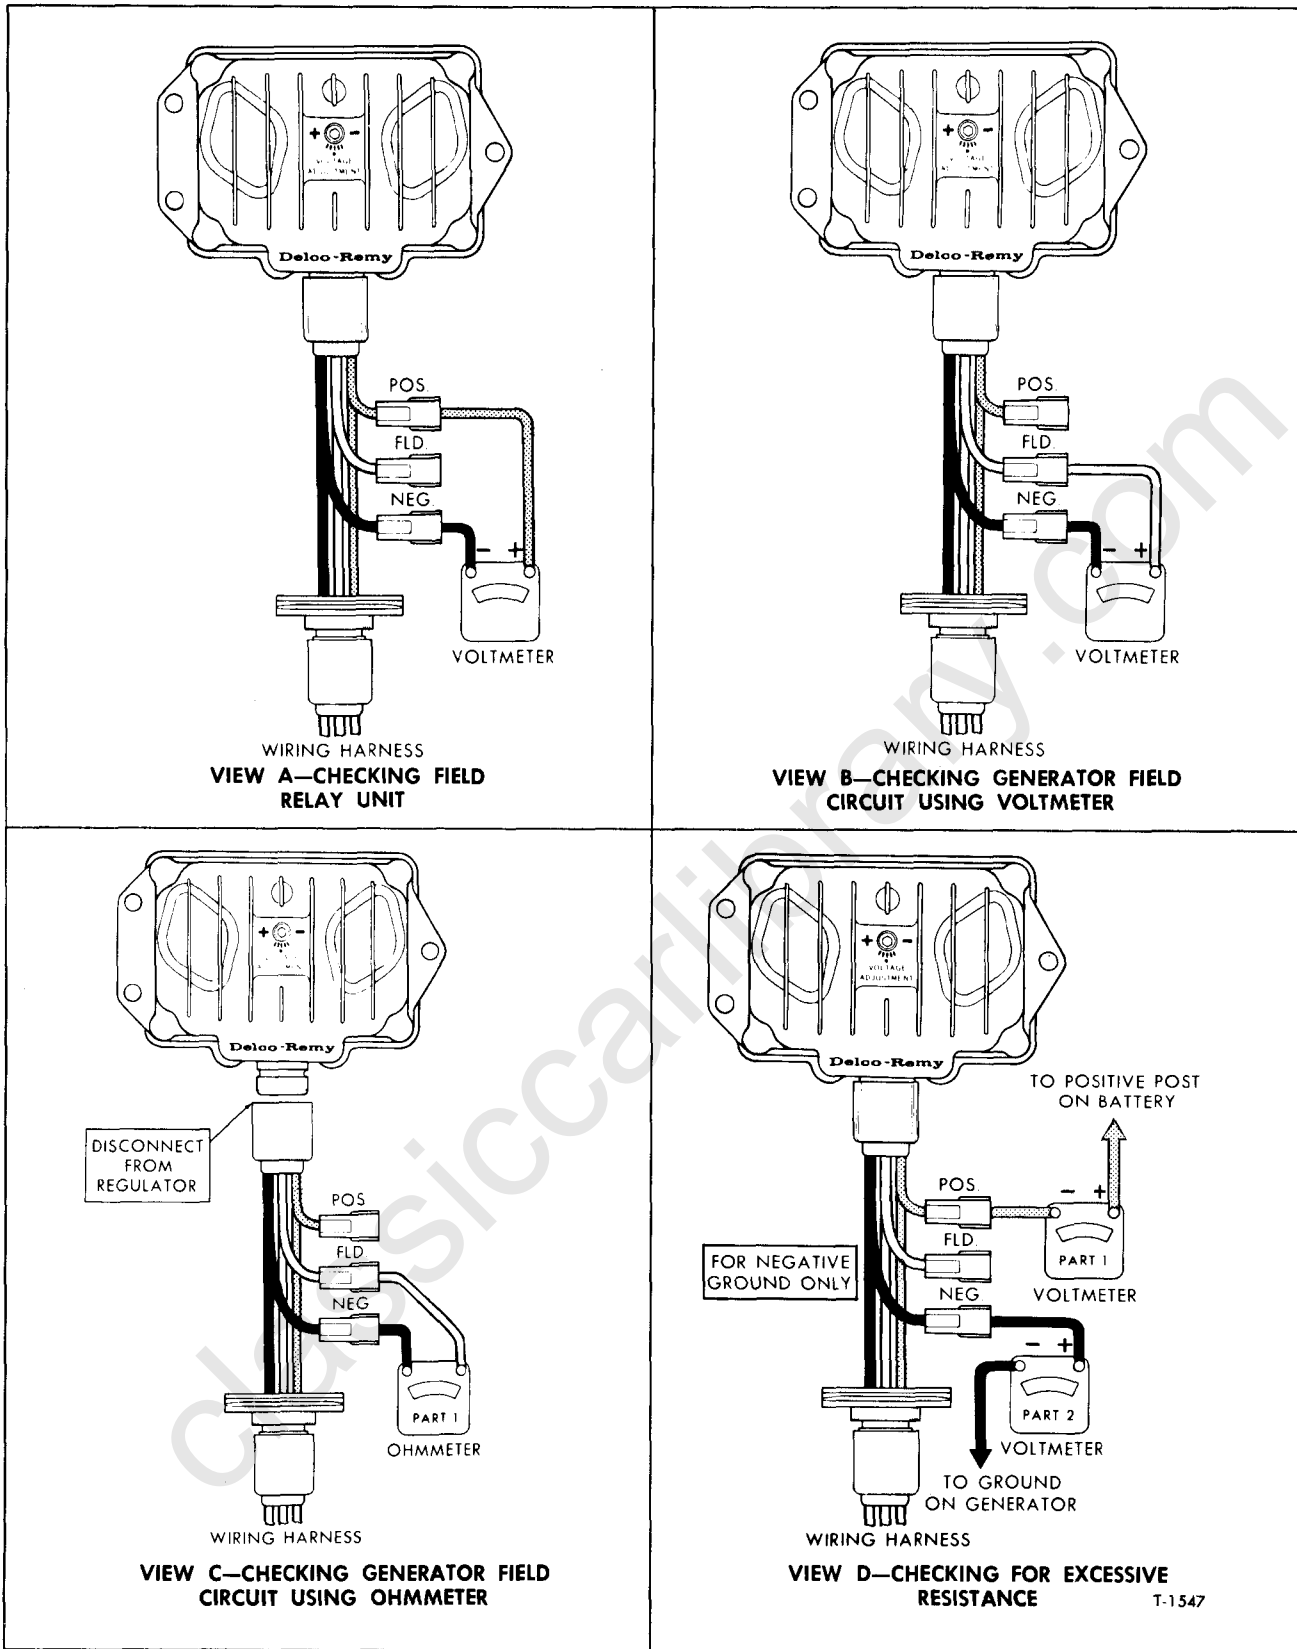

Figure 17—Using Adapter (J-21600) to Check Circuit with 9000590 Type Regulator
1. Connect a voltmeter to test adapter as shown in View A, figure 17.
1. Connect a voltmeter to test adapter (J-21600) as shown in View B, figure 17.
b. Connect an ammeter to the adapter as shown in View C, figure 17.
b. To check the regulator, connect a voltmeter as shown in View A, figure 17, then start engine and operate at moderate speed. If voltage is uncontrolled and increases with speed to values above the specified setting range, replace or repair the regulator.
2. Connect a voltmeter to the adapter as shown in View A, figure 17.
1. Connect a voltmeter as shown in View D, Part 1 and Part 2 in figure 17.
1. Connect a voltmeter to the adapter as shown in View A, figure 17.